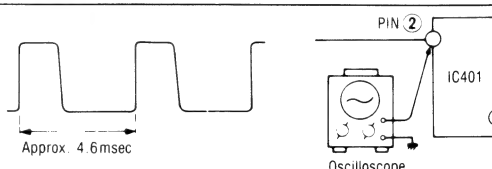

Fig. 21
2. Connect an oscilloscope to pin 2 of IC401, as shown in fig. 21.